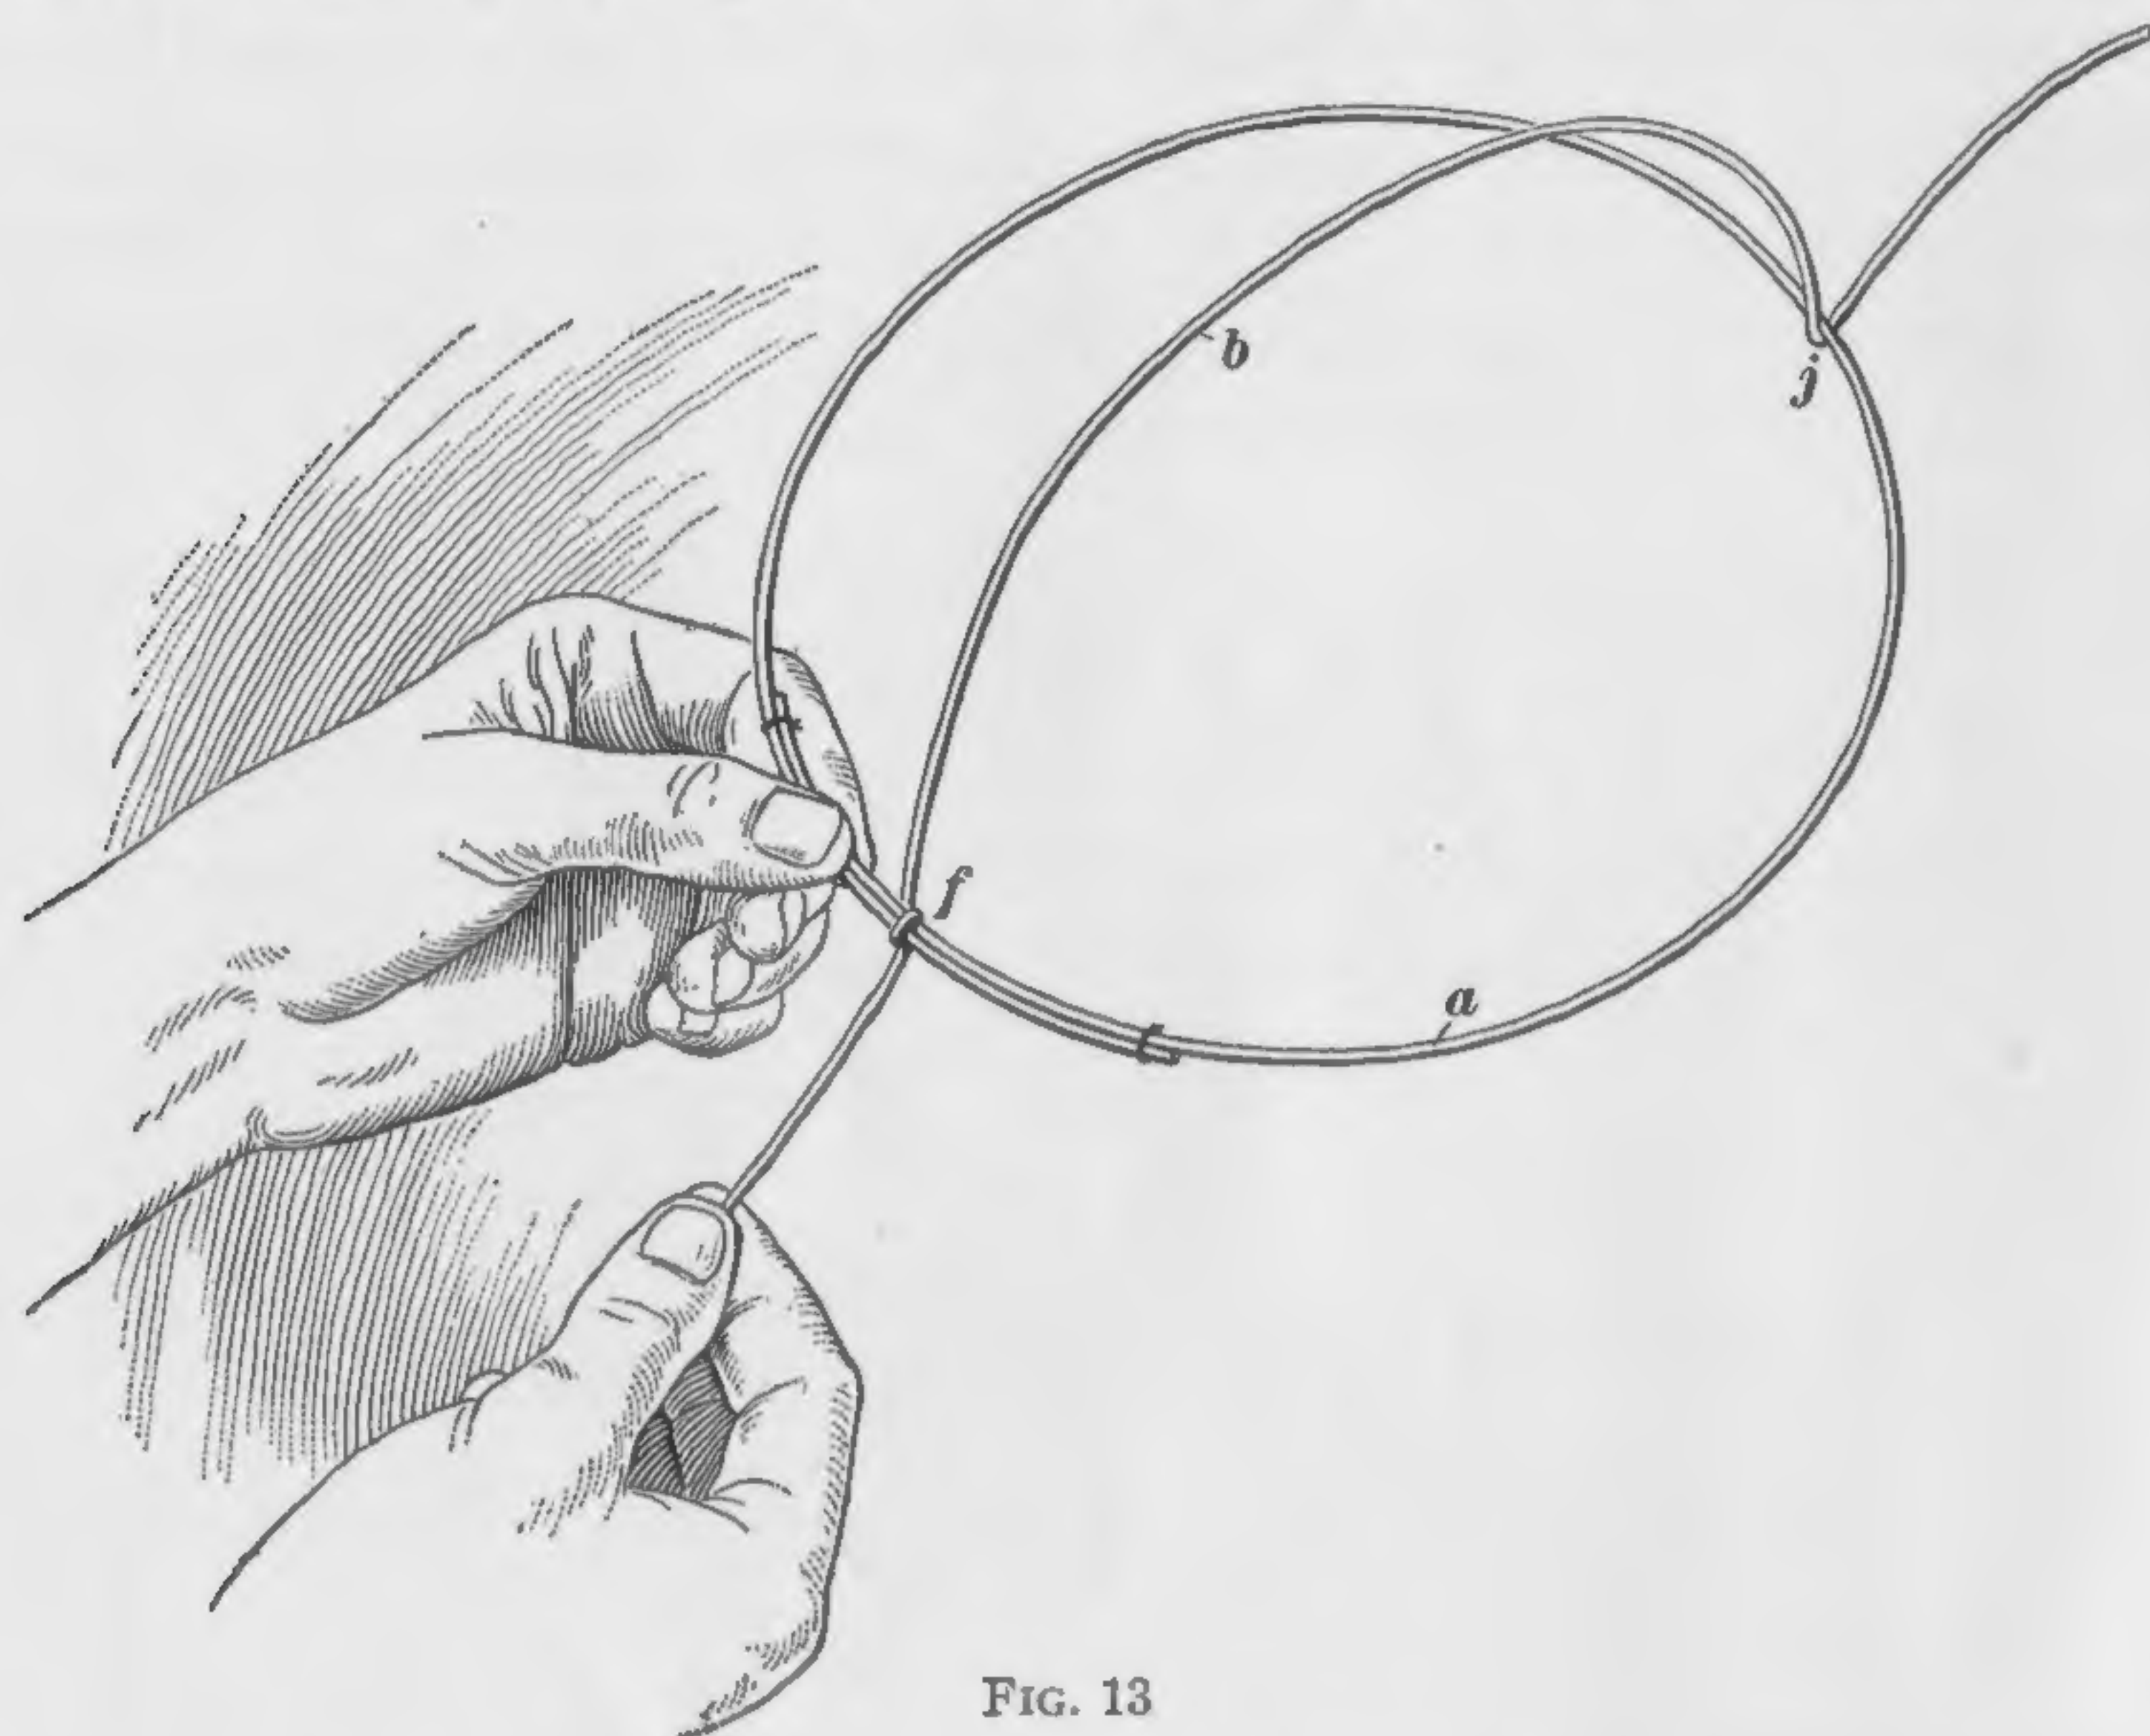

FIG. 13
20. To attach the support wires that have been prepared as just described, proceed as shown in Fig. 13. Take one of the support wires and begin at the point *f* at the back of the hat. Set the head-size wire *a* into the bend of the wire *b*, and give the short end one full turn around the wire *a*, as shown. Then do the same with the